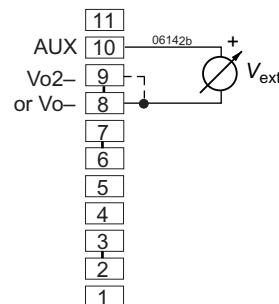

Fig. 20
Resistor  $R_{ext1}$ , connected between R (pin 2) and GND1 (pin 1) of the D-SUB connector or according to fig. 20.
Resistor  $R_{ext2}$ , connected between R (pin 2) and VCC (pin 3) of the D-SUB connector or according to fig. 20.
**Note:** If the R function is not included in M1 or M2, refer to figure 20 how to connect  $R_{ext1}$  or  $R_{ext2}$ .
### b) Adjustment by an external control voltage $V_{ext}$ (1.25 – 2.75 V), connected between R (pin 2) and GND (pin 1) of the D-SUB connector or according to fig. 20.